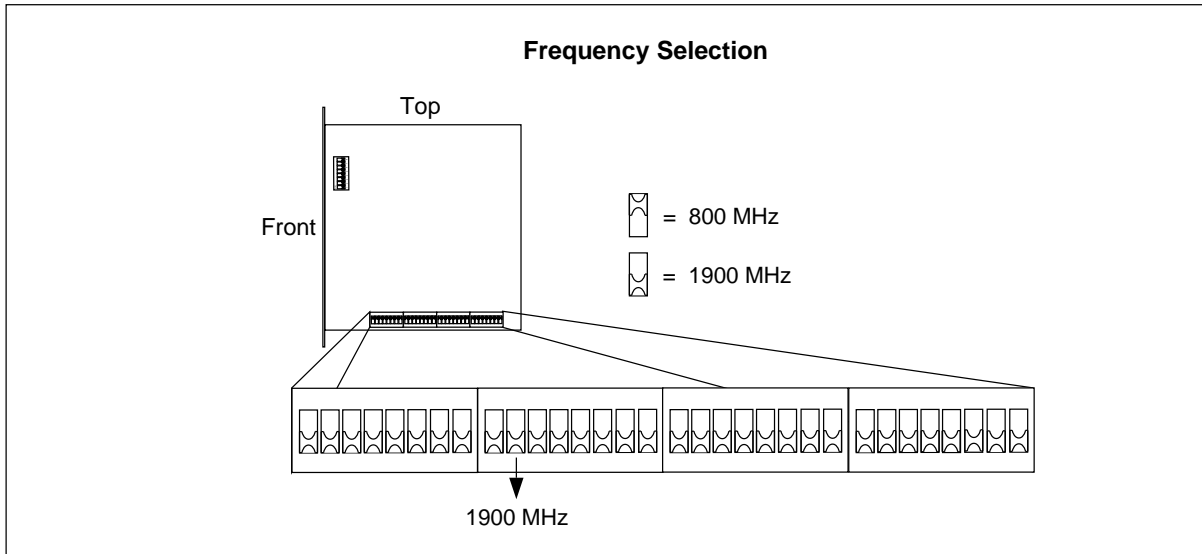

Figure 4-28. Setting the Frequency of Operation
14. Set the frequency of operation for 1900 MHz as shown in Figure 4-28 on page 4-44.